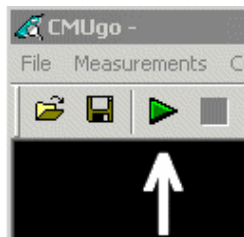

Fig. 5.11_6: Start icon in the menu bar of CMUgo
- 15) Click the *start icon* in the menu bar of CMUgo (Fig. 5.11_6).